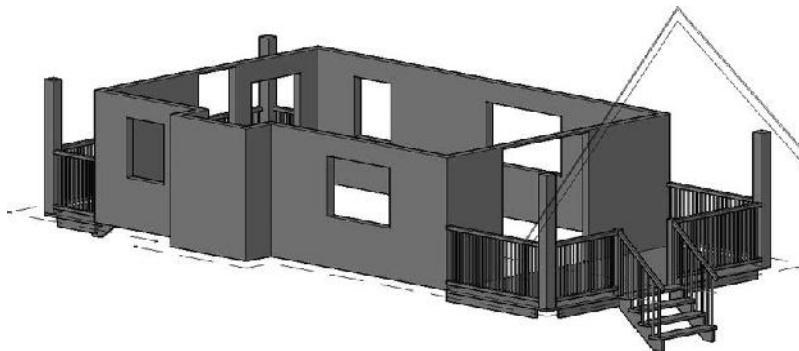

FIGURE 16.75: Eastern edge of the 3D model after aligning the roof polylines to the model
14. Zoom out so that the entire eastern side of your cabin is viewable. Your model should look like Figure 16.75.